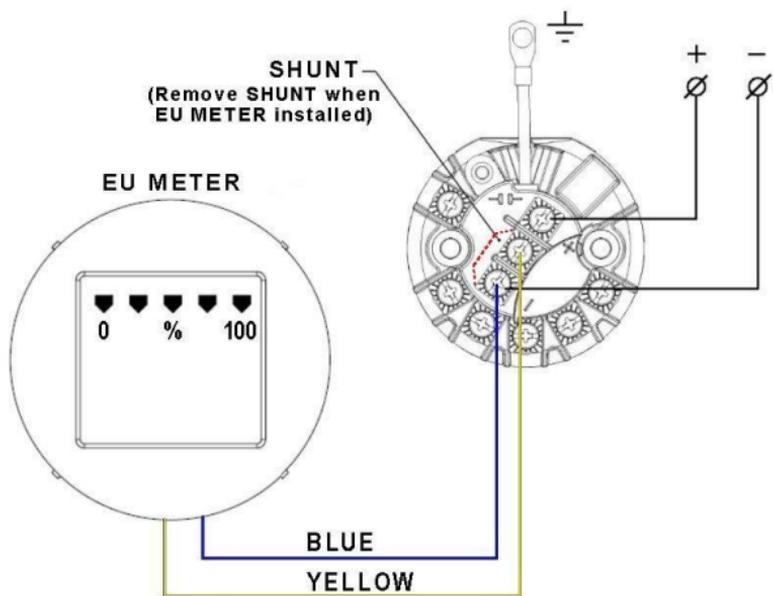

Figure 13: Installation with EU Meter
- If an EU meter is used, wire according to Figure 13.